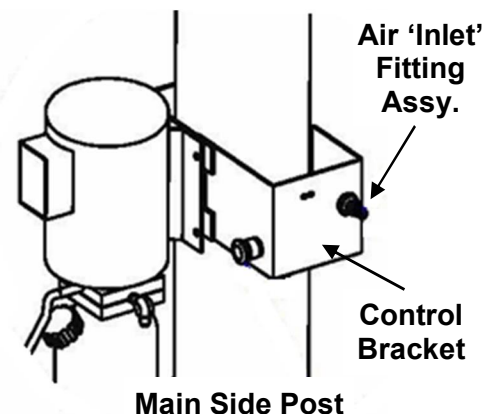

Fig. 1
- 2) If already connected, remove Air Inlet Fitting Assembly from Control Bracket, and set aside for reuse. Air Tubing connected to Inlet Fitting Assembly to stay connected to Air Valve inlet port, Fig. 1.